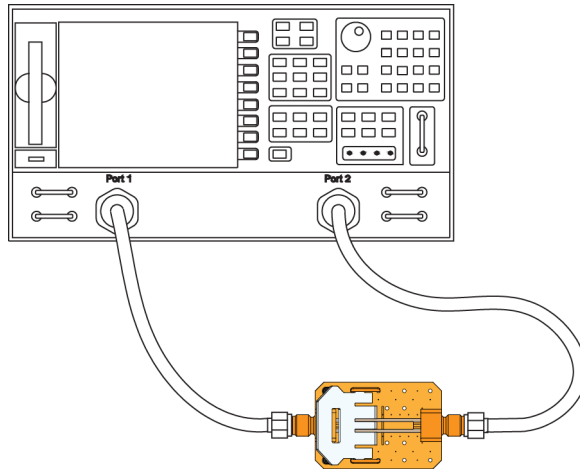

Figure 19 Forward and Reverse Setup
- 17 Connect the **PORT 2** SMA cable to the non-pincher side of PV fixture as shown in Figure 19.